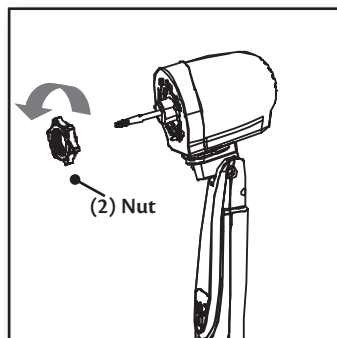

Figure 3.
1. Remove the Plastic Nut (2) from the fan motor housing . **Figure 3.**